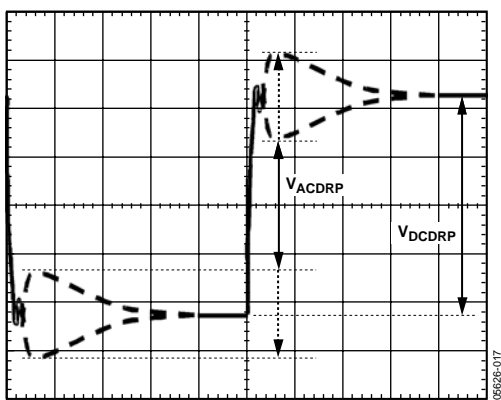

Figure 17. AC Loadline Waveform
14. Measure the output waveform (use dc offset on scope to see the waveform). Try to use a vertical scale of 100 mV/div or finer. This waveform should look similar to Figure 17.